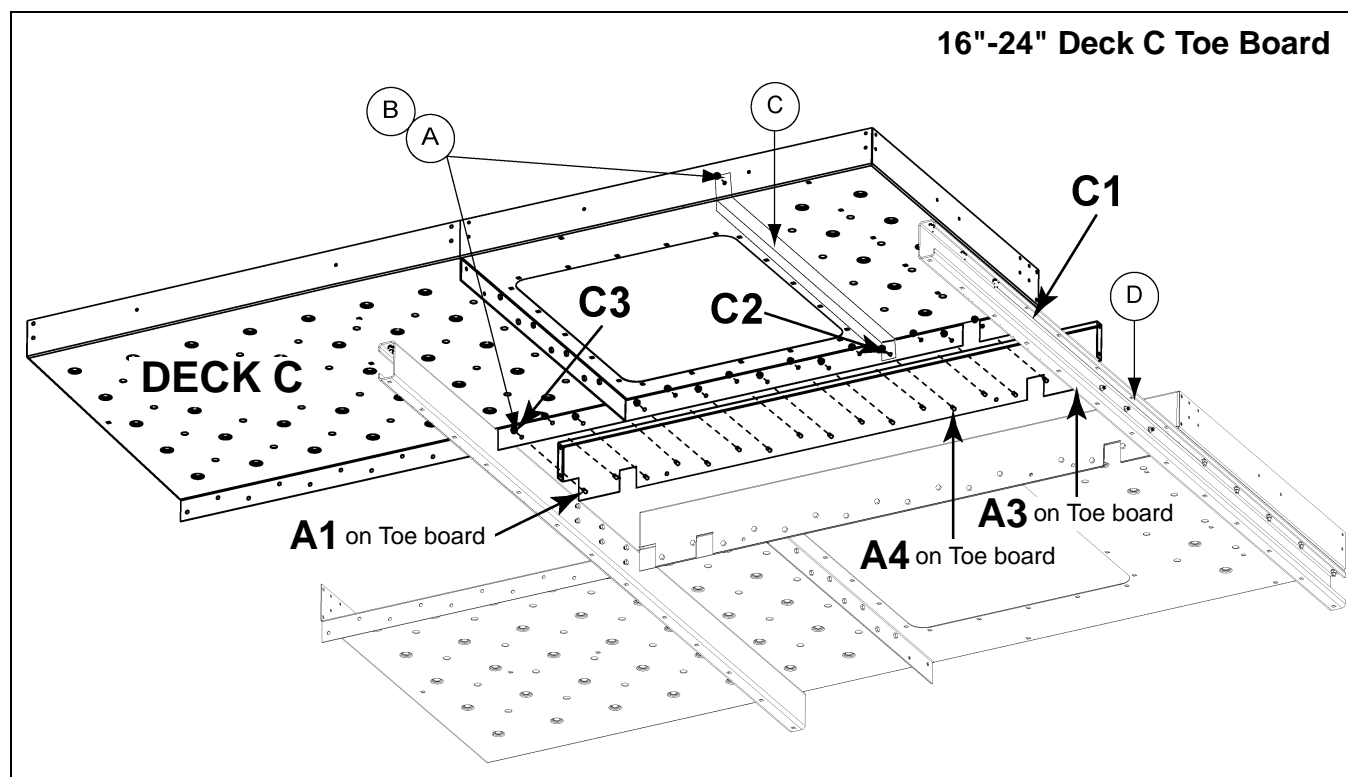

Figure 8E 24" Deck C Toe Board
1. Locate pre-assembled Deck C, consisting of two (2) planks and connecting tabs.
4. Using a punch as needed for alignment, connect Deck C to side toe board using 3/8" x 1" carriage bolts (S-3585) with flange nuts (S-10028) and torque to standard specifications. *(See Figure 8E.)*